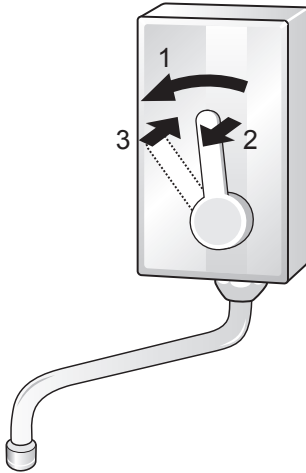

fig. 4a
- It is advisable to start the adjustment by turning the knob to the left and pulling it towards you. Then, control the water flow by pulling the knob slowly towards the heater. (fig. 4a)